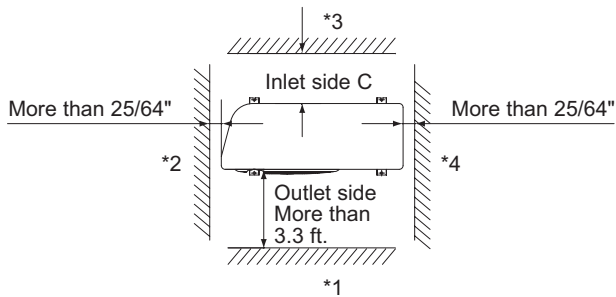
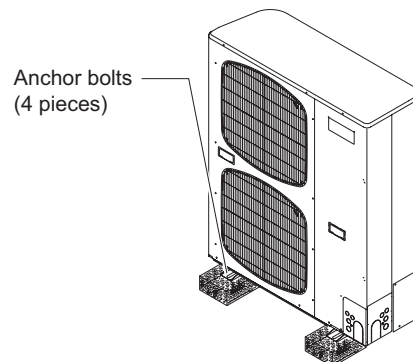

Fig. 2-7
Fig. 2-9
- allow enough room around the unit for air intake/exhaust and possible maintenance.(Fig.2-7)
- Concerning inlet-side distance "C" (Fig. 2-7)
- If wall \*1 is on the outlet side (Fig. 2-7), or if obstructions are present on all 3 sides \*2, \*3, and \*4 (Fig. 2-7), then the minimum distance for "A" and "B" is 6.6 ft. (Fig. 2-9). Even if there is no wall on the outlet side, a minimum of 3.3 ft. is required.
- provide a solid base (concrete block, 4 × 16 in. beams or equal), a minimum of 6 in. above ground level to reduce humidity and protect the unit against possible water damage and decreased service life. (Fig. 2-9)